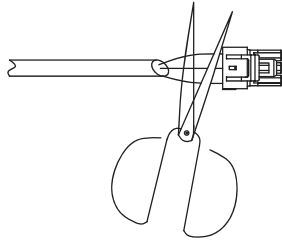

Fig. 22 —Shearing Outdoor Connector
1. Cut the connector on the outdoor unit side (see Fig. 22).